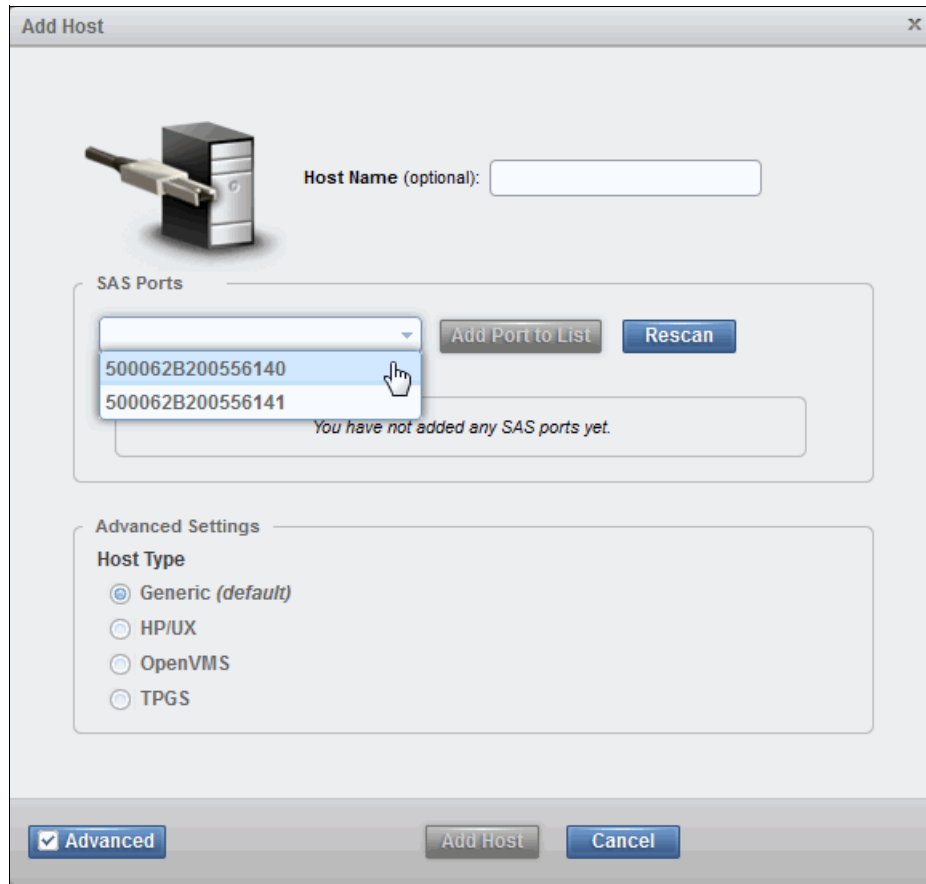

Figure 4-56 SAS WWPNs visible to the system
2. Enter a descriptive **Host Name** and click the **SAS Ports** drop-down menu to view a list of all FC WWPNs visible to the system, as shown in Figure 4-56.